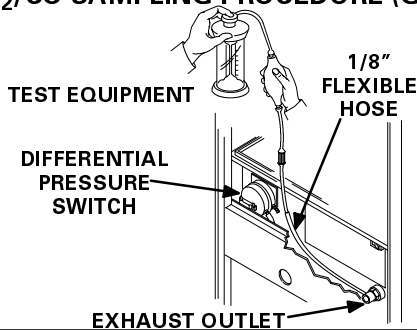

FIGURE 42
- 1 - Drill a 11/32" in. hole on top of the exhaust outlet PVC elbow (inside unit cabinet) and tap 1/8-27 NPT as shown in figure 42. This hole is used as the CO₂/CO test port.
- 2 - Install a hose barb into the test port. See figure 42.